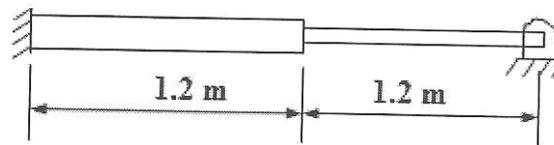

Figure 9
Q. 9 For the stepped beam (with fixed-pin boundary conditions) shown in Figure 9, 18 set-up the problem (find characteristic equation) to determine first three natural frequencies. Each element has $E=200\text{GPa}$, density $\rho=7500\text{kg/m}^3$, $I_1=1.5 \times 10^{-6} \text{ m}^4$, $I_2=8.8 \times 10^{-7} \text{ m}^4$, $A_1=2.4 \times 10^{-3} \text{ m}^2$, $A_2=8.5 \times 10^{-4} \text{ m}^2$. Use consistent mass matrix.